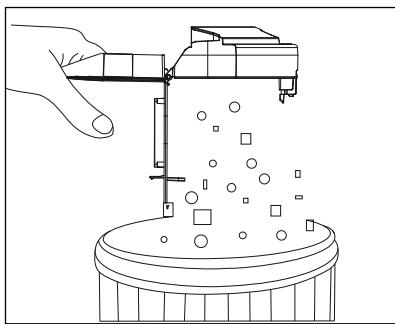

Fig. 9
- 3) Empty the contents of the dust container 16 into a waste container (see Fig. 9).